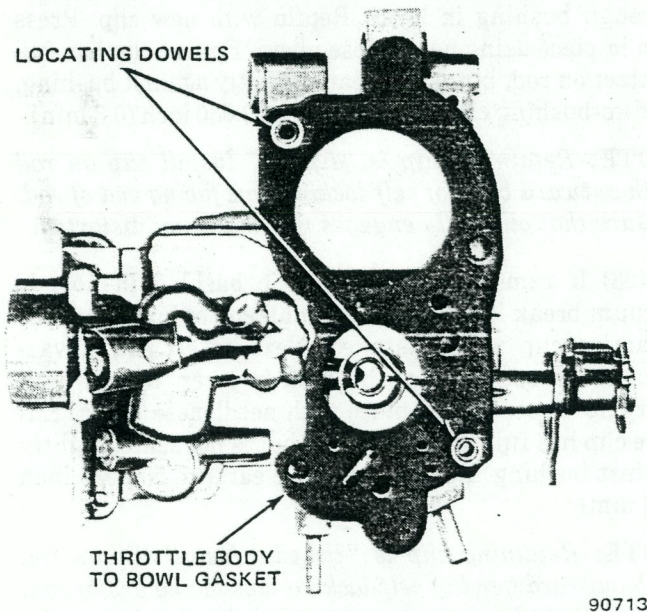

Fig. 1J-47 Model 2SE Carburetor—Throttle Body-to-Bowl Insulator Gasket
(5) Install new throttle body-to-bowl insulator gasket over two locating dowels on bowl.
(6) Holding fast idle cam so that cam steps face fast idle adjustment screw on throttle lever when properly installed, install throttle body ensuring it is properly located over dowels on float bowl (fig. 1J-47). Install four throttle body-to-bowl screws and lockwashers and tighten securely (fig. 1J-42).